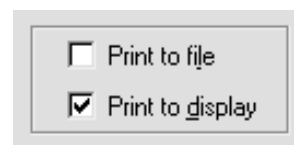

Fig. 15. Checkboxes.
- **Checkboxes** (Fig. 15) are another common feature, allowing one or more of the options to be selected at the same time.